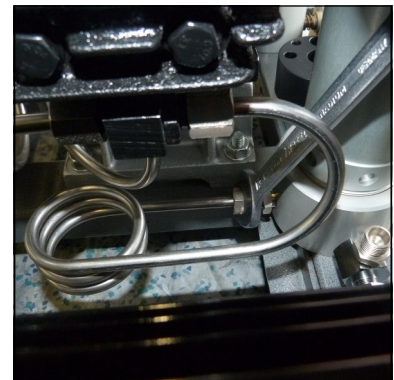

Fig. 2 - Loosen pipe connections of the filter housing
- Tighten valve head bolts crosswise (torque settings: 25 Nm) (Fig. 2).